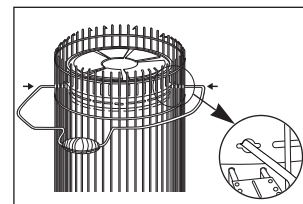

Fig.6
**D) INSTALLING CARRYING HANDLE: (Fig.6)**